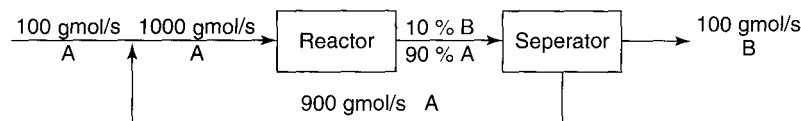

Figure 12.3 A simple recycle system with chemical reaction.
- ☒ The most common application of recycle for systems involving chemical reaction is the recycle of reactants, an application that is used to increase the overall conversion in a reactor. Figure 12.3 shows a simple example for the reaction
If you calculate the **extent of reaction** for the **overall process** in Figure 12.3 based on **B**
For the simple recycle reactor in Figure 12.3, **the overall conversion** is